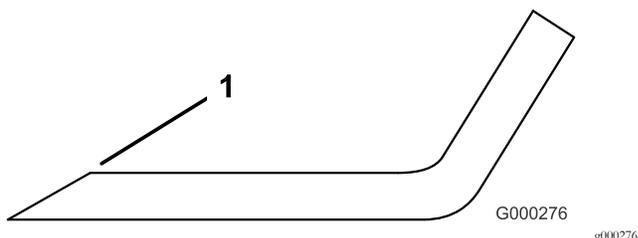

Figure 90
3. Examine the cutting edges of all the blades and sharpen the cutting edges if they are dull or nicked (Figure 90).
Note: Sharpen only the top of the cutting edge and maintain the original cutting angle to ensure sharpness (Figure 90). The blade remains balanced if the same amount of metal is removed from both cutting edges.